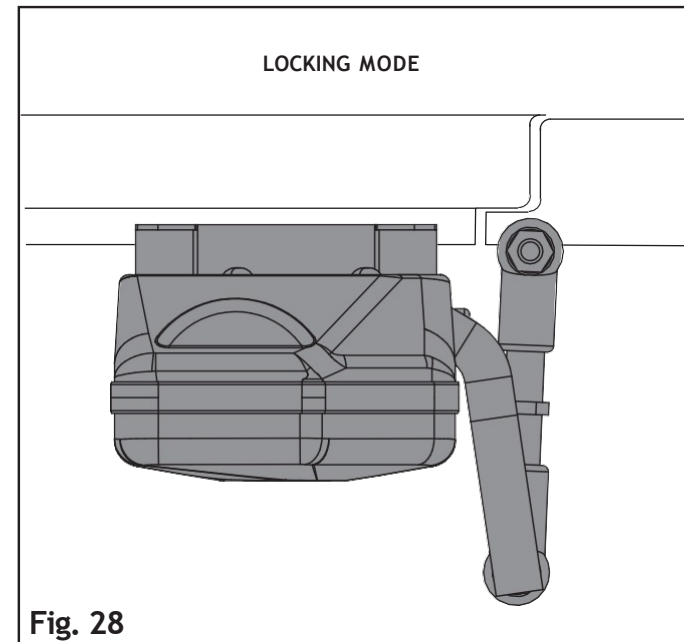

Fig. 28
Draft position with correctly closed door in the locking mode is shown in fig. 21 and fig. 28, p. 25.
1. locking (in factory settings) fig. 28;